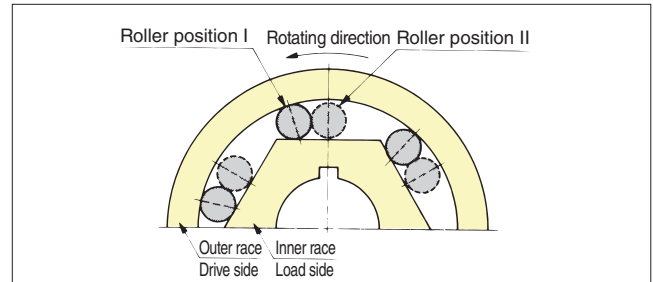

Figure 1. Roller position
- 1-1 At roller position I (Figure 1)
- 1-2 At roller position II (Figure 1)